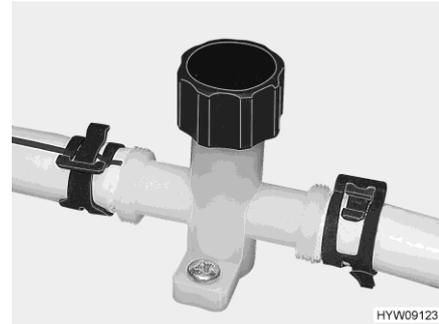

Fig. 113 Drain cock (water pipe)
- Close the drain cocks. In order to do this, turn the cap of the drain cock (Fig. 113) in a clockwise direction.